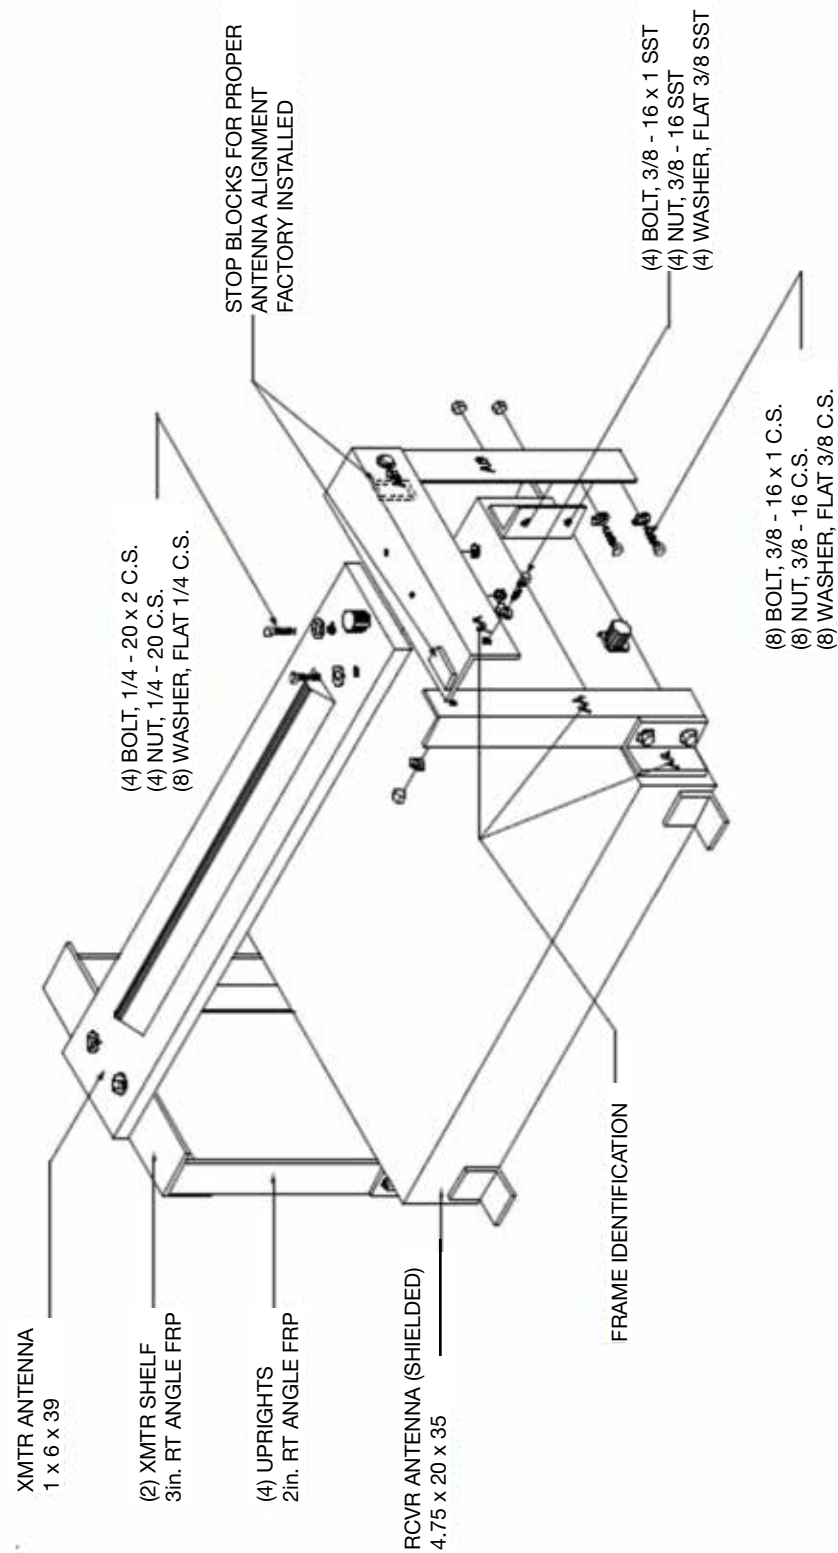

FIGURE 6
4. (See Figure 6 if applicable) With the 4 upright post design, alignment blocks have been riveted to the frame. The edge of the transmitter antenna should be tight up against the stop block before bolts are tightened. Inspect the antenna assembly for alignment and tighten all connections. The entire assembly should be rigid, square and sturdy.